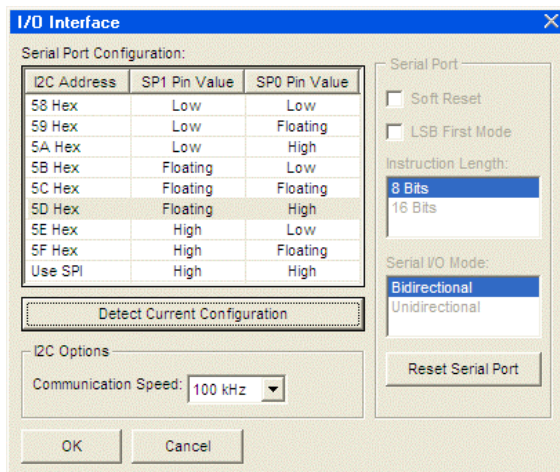

Figure 28. AD9522 Evaluation Software Serial Port Configuration
5. Repeat Step 4 for both the **sclk\_scl** pin and **gnd** pin of the AD9522 evaluation board to the SCL pin and ground pin of the target board, respectively. On the evaluation software, select **Configure Serial Port** from the I/O menu. This window is shown in Figure 28.